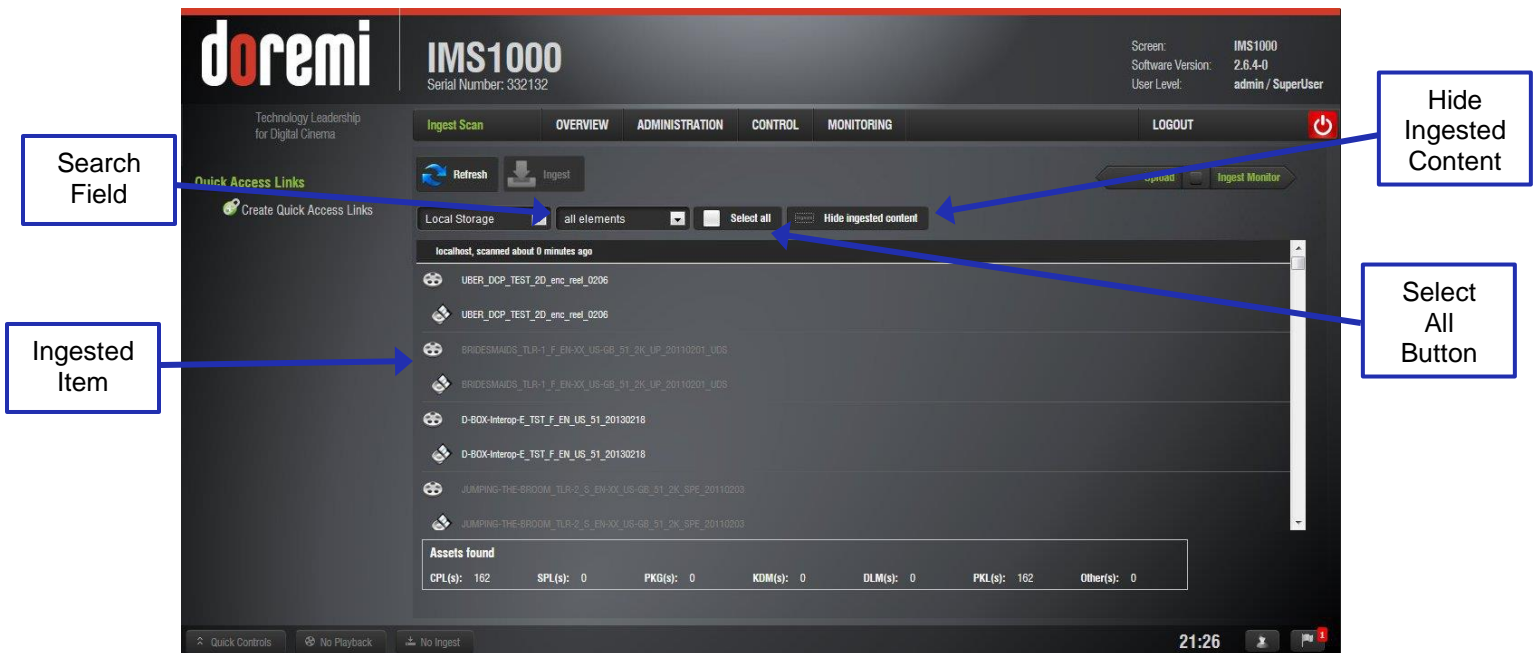

Figure 277: USB Ingest
- To select, or unselect, all items, use the Select All button (Figure 277).
- To search for an item, use the search field (Figure 277).
- If an item was already ingested, it will appear in gray (Figure 277).
- **Note:** To hide all ingested content, select the Hide Ingested Content button (Figure 277).